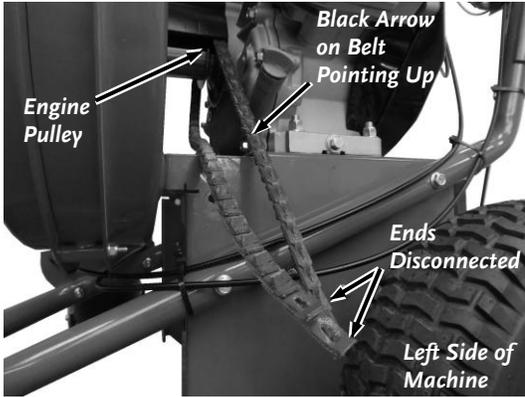

Figure 24
1. Install the end of the Belt around the Engine Pulley from the left side of the machine with the small black arrow on the Belt pointing up (**Figure 24**).